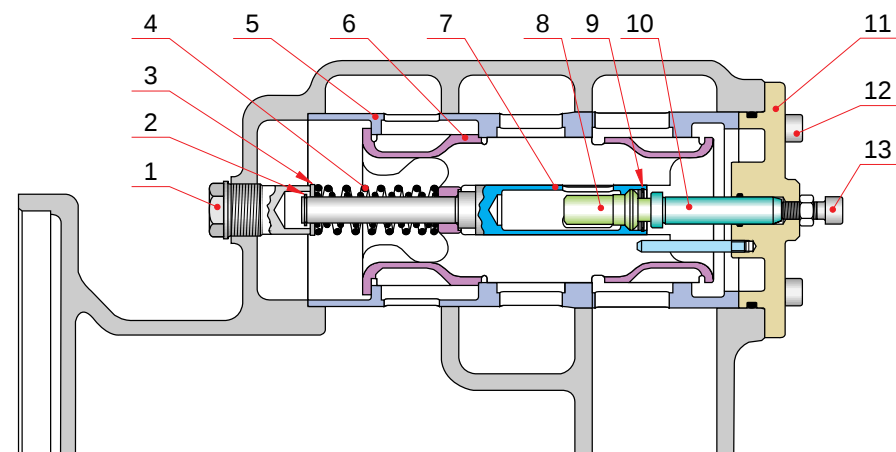

Fig 19-5
- 2 Release the spring force** by opening the adjusting screw (13), see Fig 19-5.
- 3 Remove the cover (11)** by opening the screws (12).
- 4 Remove the plug (1)** and push the control piston (6) against the spring force until the retainer ring (2) can be removed.
- 5 Remove the element holder (7)** with element, springs (4) and washer (3).
- 6 Remove the control piston (6)** with the control cylinder (5). Use extractor tools 800131 and 800063.
- 7 Remove the retainer ring (9)** and the thermostat element (8).